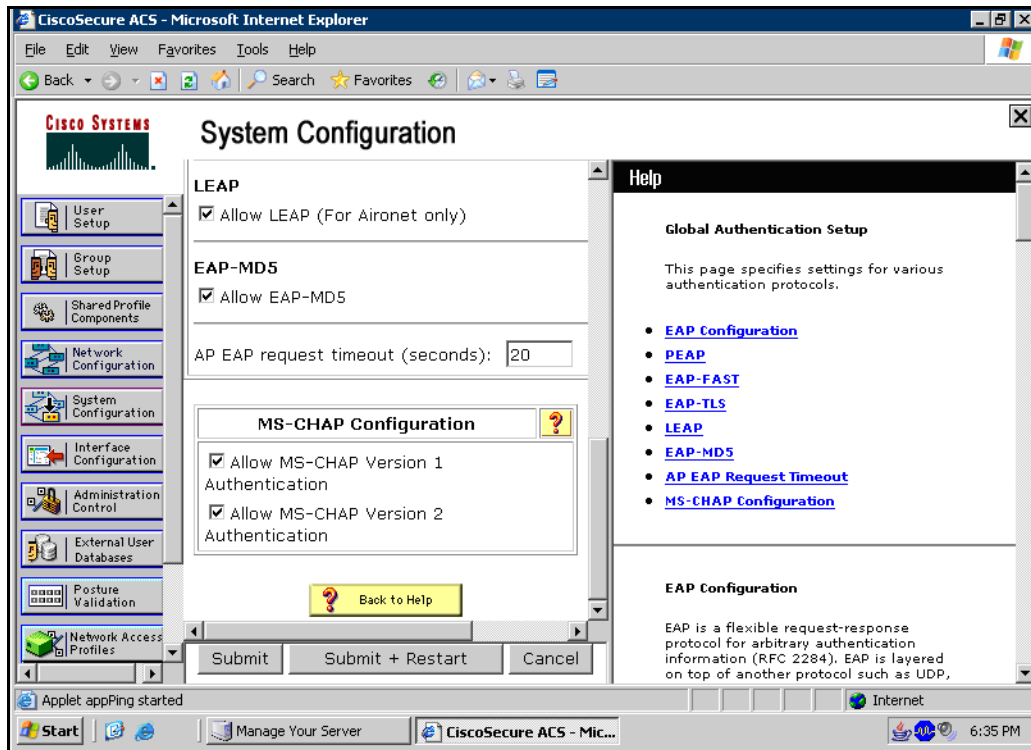

FIG. 71 EAP-LEAP sample Cisco System Security page
- Refer to FIG. 71 for an example of how a typical EAP-LEAP system configuration page should appear.